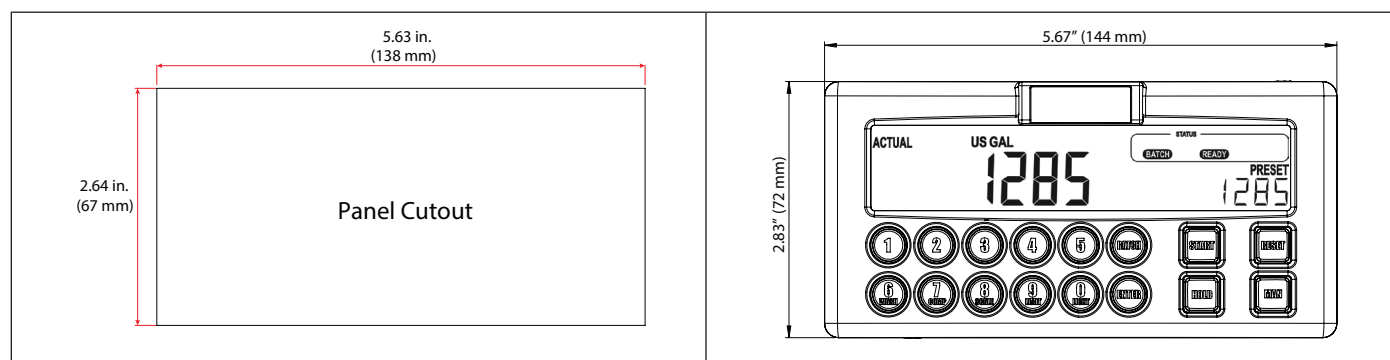

Figure 1: Panel Cutout and Mounting Dimensions
1. Measure and cut mounting hole to the dimensions shown in *Figure 1 on page 5*.